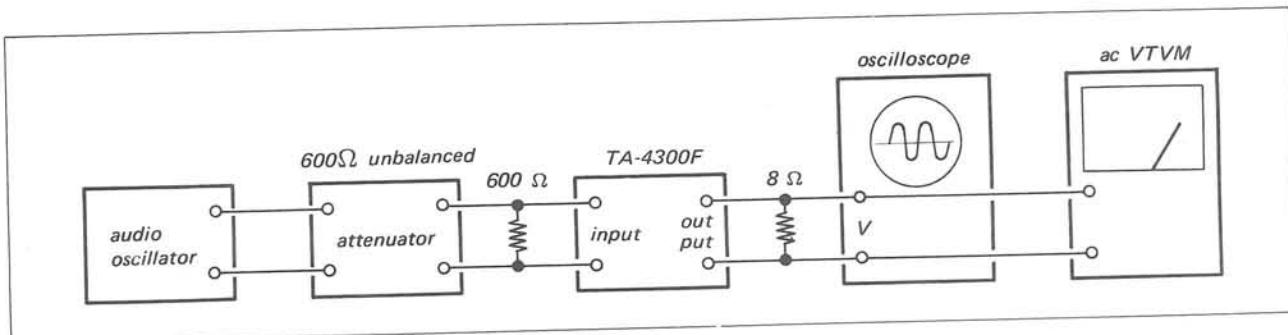

Fig. 3-1 Level check test setup
With the equipment connected as shown in Fig. 3-1, follow the procedures given in Table 3-1.
Connect the equipment as shown in Fig. 3-1. Then, set the controls and switches as follows:
- With the equipment connected as shown in Fig. 3-1, feed a 1 kHz, 2 dB signal to the INPUT connectors.
- With the equipment connected as shown in Fig. 3-1, adjust the LOW LEVEL control to obtain a 0 dB output signal level when supplying a 20 Hz,+2 dB signal and the BASS BOOST switch (S2) is set to 0 dB.